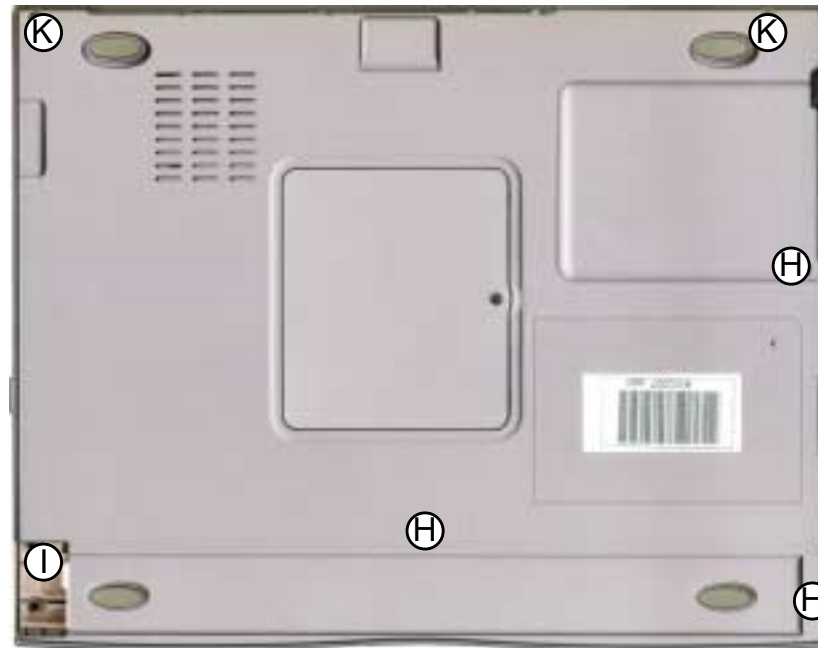

figure 3-18
5. Remove all screws (H, K) as shown in (figure 3-18).